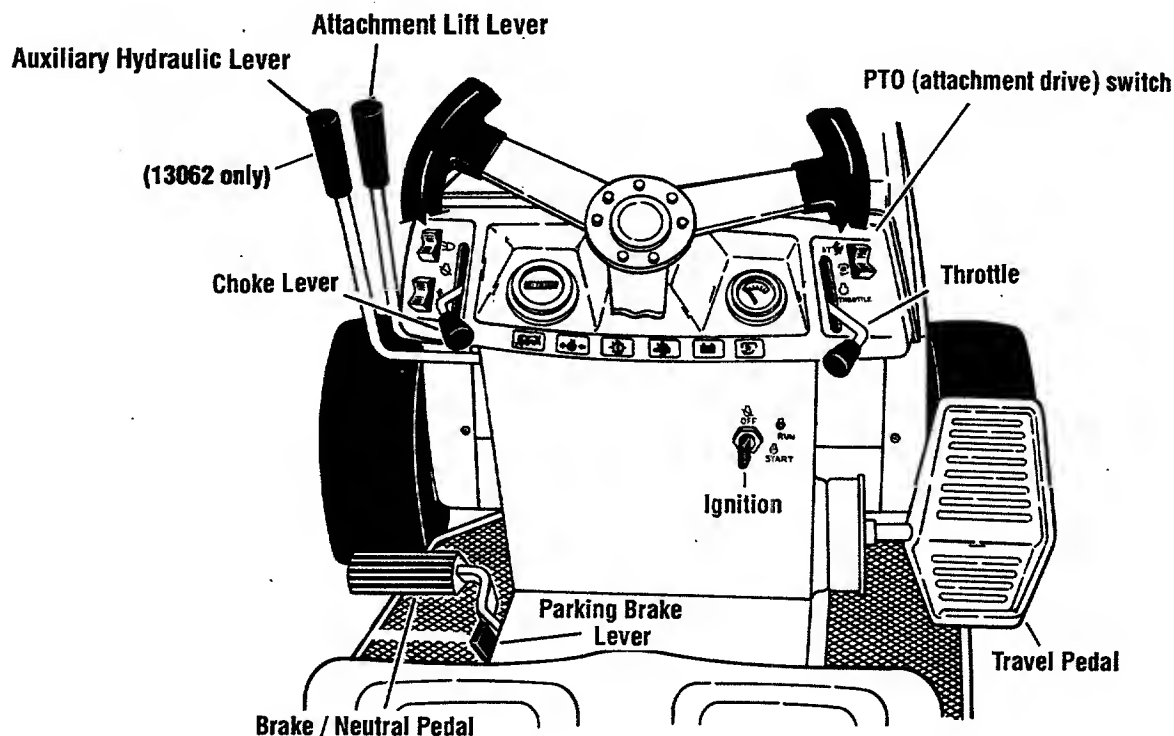

Fig. 6-1
1. Move attachment/PTO drive switch (Fig. 6-1) to "OFF". Starter will not activate unless switch is "OFF".
1. Move throttle (Fig. 6-1) down to "SLOW". Lock brake/neutral pedal down.
To engage attachment/PTO drive, turn attachment/PTO drive switch (Fig. 6-1) to "ON".
Pull hydraulic lift lever (Fig. 6-1) back to lift attachment. Push lever forward to lower attachment. When lever is released, it will return to neutral, except when pushed fully forward to "FLOAT" position.
Warning light (GTX 20): The "Oil Temperature" light activates when hydraulic fluid in transmission is overheated. If light is activated, disengage attachment/PTO drive switch (Fig. 6-1) and shut off tractor engine. Allow transmission to cool down. Make sure cooling fins are clear of debris.
2-Speed models (GTX 20): Change speeds with transmission lever (Fig. 6-1). Tractor must be completely stopped when shifting.
Controls forward and rearward movement. Press travel pedal (Fig. 6-1) at top (with toe) to move forward. Press pedal at bottom (with heel) to move in reverse.
Press brake/neutral pedal (Fig. 6-1) to apply brake and when starting engine. To lock brake (when parked), press pedal and lift parking brake lever to lock pedal down.
To set: When tractor is moving at desired speed, press "RESET" to activate speed control (Fig. 6-1). This sets travel pedal.